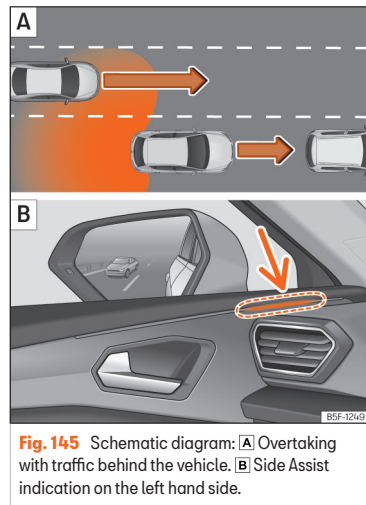
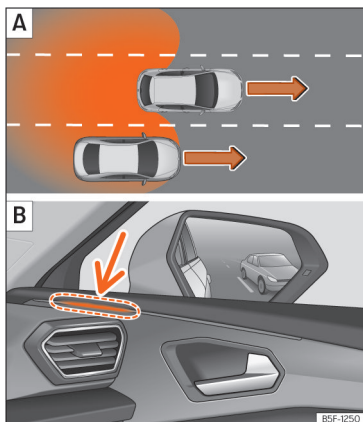

Fig. 145 Schematic diagram: **A** Overtaking with traffic behind the vehicle. **B** Side Assist indication on the left hand side.
Fig. 146 Schematic diagram: **A** Overtaking in the central lane and then joining the right lane. **B** Side Assist indication on the right hand side.
In the following situations, an indication will be displayed in the control lamp >>> Fig. 145 **B** [arrow] or >>> Fig. 146 **B** [arrow]:
- When being overtaken by another vehicle >>> Fig. 145 **A**.
- When passing another vehicle >>> Fig. 146 **A** with a speed differential of approx. 10 km/h [6 mph]. If the vehicle is passing at a considerably higher speed, no indication will be displayed.